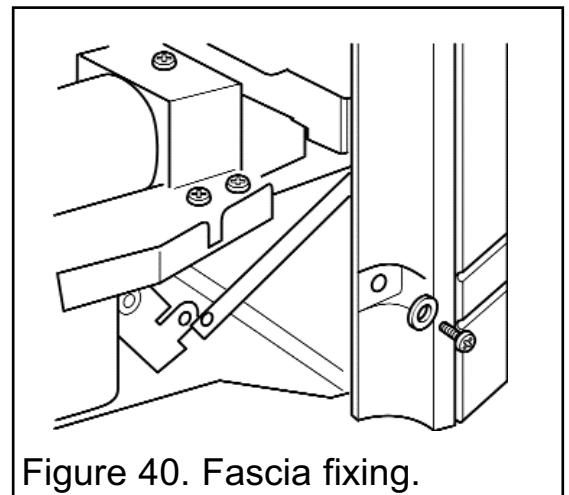

Figure 40. Fascia fixing.
3. Remove the two screws and washers securing the bottom of the fascia to the sides of the convection box (See figure 40).